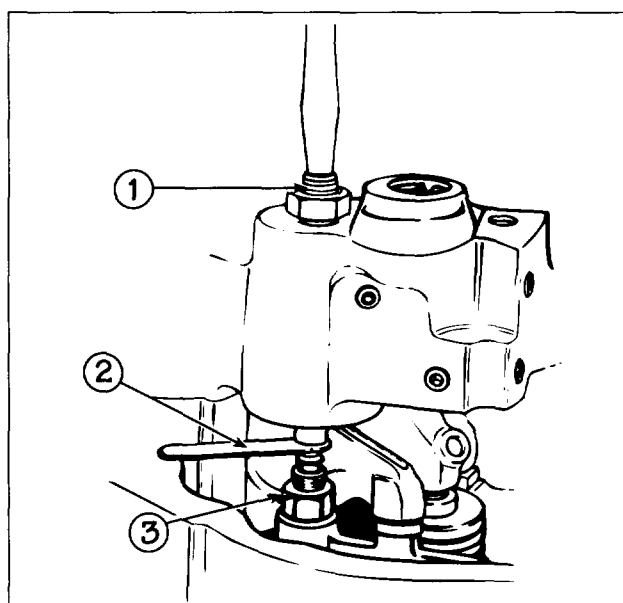

FIG. 14
Refer to Fig. 14. With the exhaust valves closed on the cylinder to be adjusted, insert the proper Jacobs feeler gage (2) between the slave piston and the actuating pin (3) in the valve bridge adjusting screw.